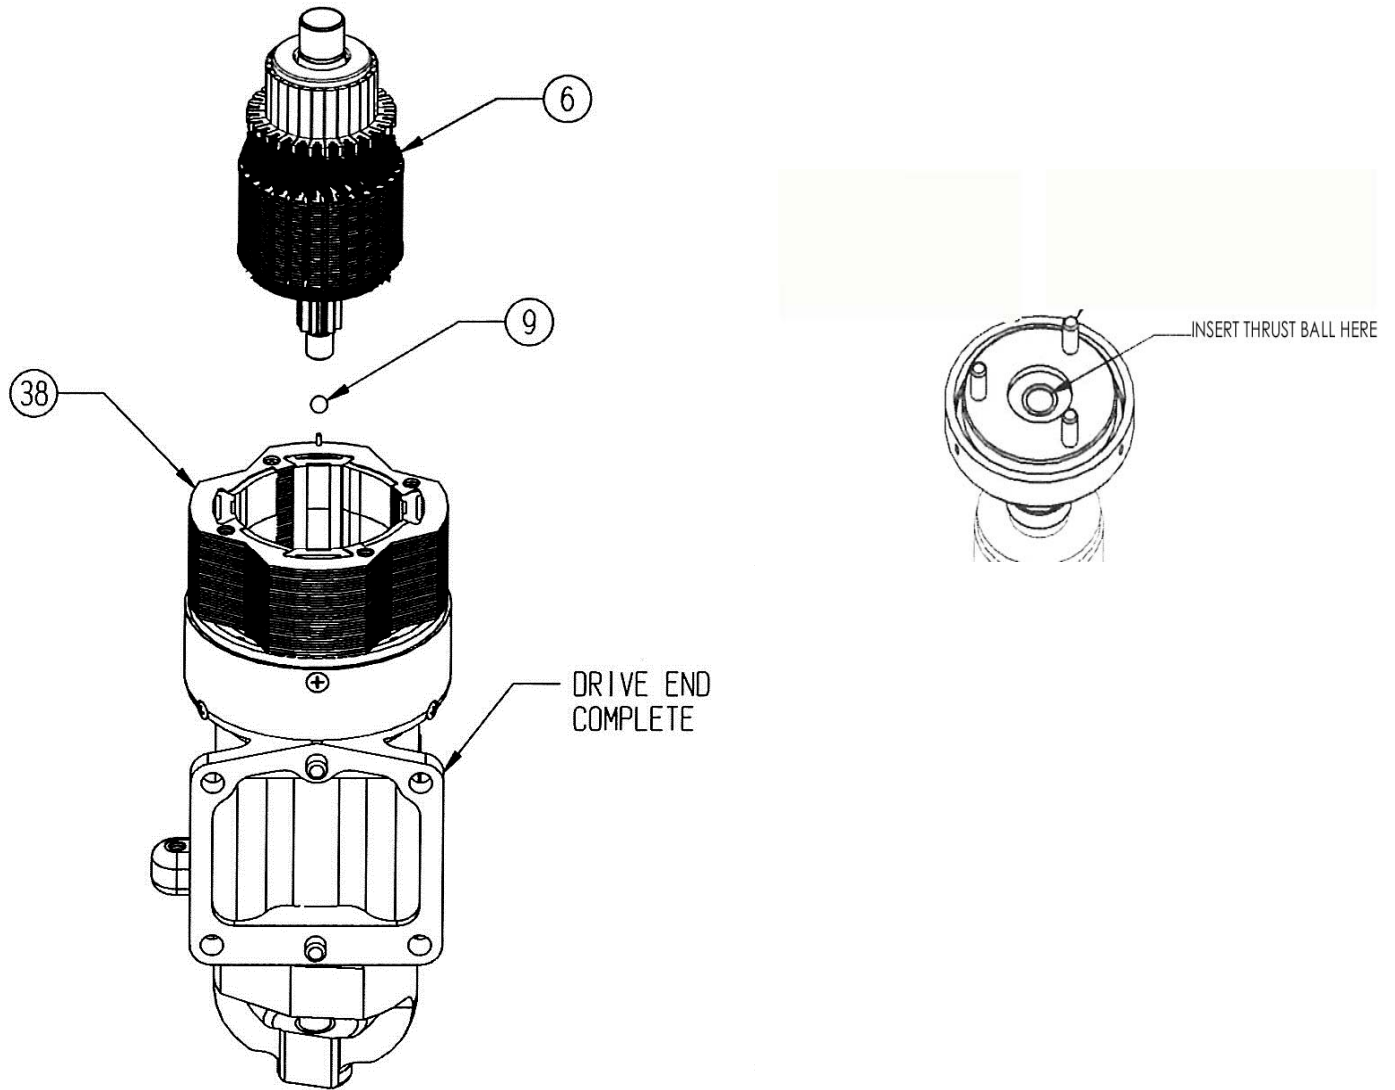

Fig 18: Armature Installation
8) Armature: Insert Thrust Ball (#9) ensuring that it is fully seated in the end of the shaft assembly. If ball gets into gear assembly, extreme damage and starter failure will occur. Slide Armature (#6) into flux ring. (be cautious as magnets will want to pull it in very fast). (see figure 18)